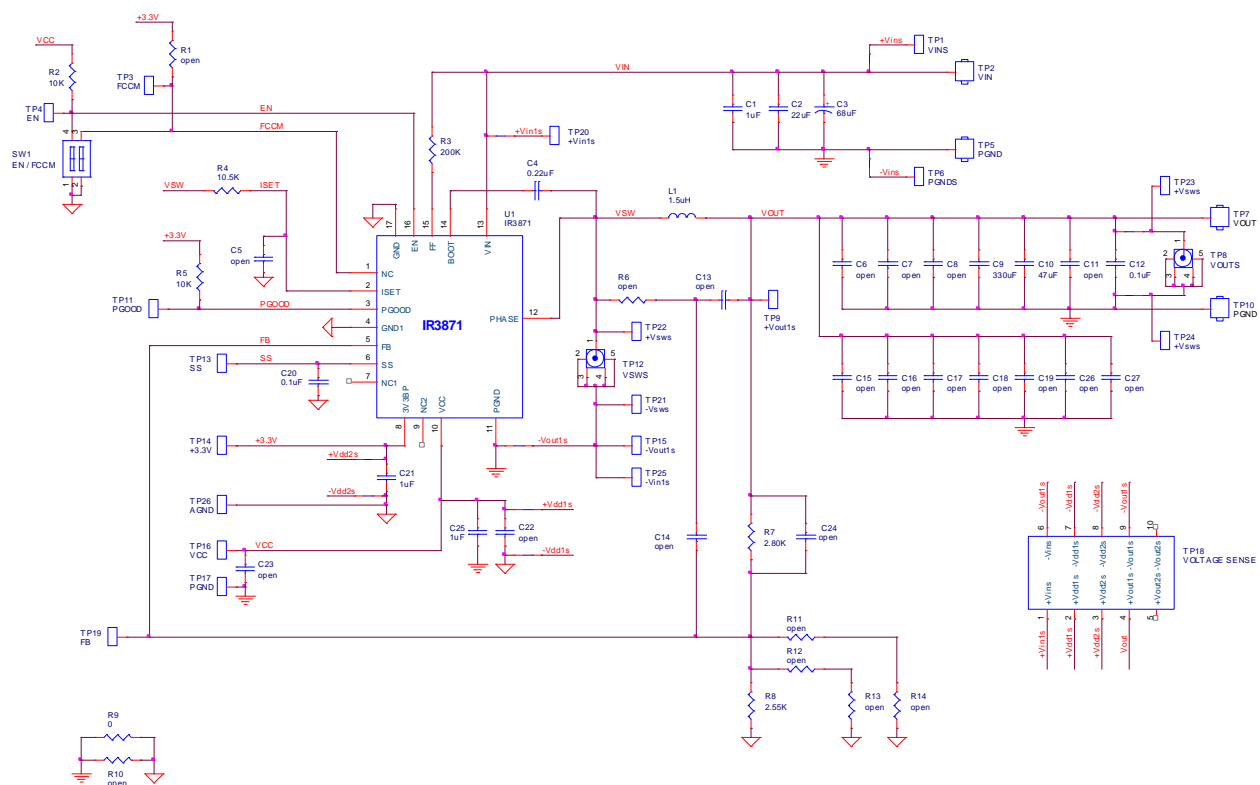

Figure 7. Typical Application Circuit for $V_{OUT} = 1.05V$, $F_s = 300kHz$
Tested with demoboard shown in Figure 7, $V_{IN} = 12V$, $V_{CC} = 5V$, $V_{out} = 1.05V$, $F_s = 300kHz$, $T_A = 25^\circ C$, no airflow, unless otherwise specified
Tested with demoboard shown in Figure 7, VIN = 12V, VCC = 5V, Vout = 1.05V, Fs = 300kHz, TA = 25°C, no airflow, unless otherwise specified
- For applications with all ceramic output capacitors, the ESR is usually too small to meet the stability criteria. In these applications, external slope compensation is necessary to make the loop stable. The ramp injection circuit, composed of R6, C13, and C14, shown in Figure 7 is required. The inductor current ripple sensed by R6 and C13 is AC coupled to the FB pin through C14. C14 is usually chosen between 1 to 10nF, and C13 between 10 to 100nF. R6 should then be chosen such that $L/DCR = C13 \cdot R6$.